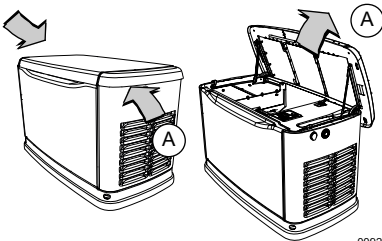

Figure 2-4. Opening the Lid
2. See Figure 2-4. Two locks (A) secure lid; one on each side. Press down on lid above side lock, and unlock latch to correctly open lid.